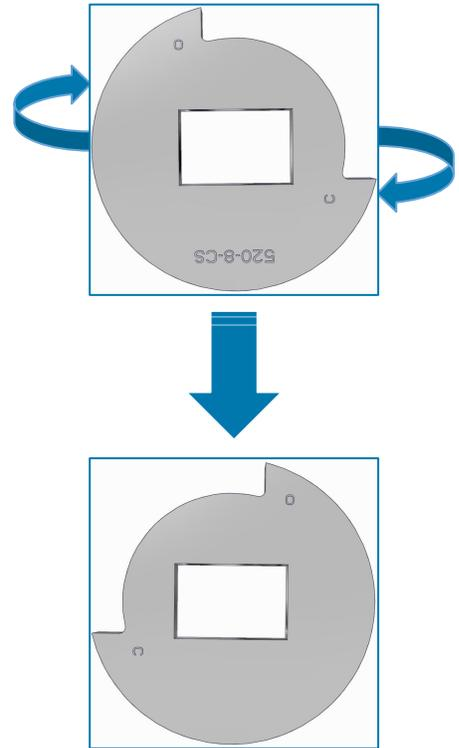

Figure 5 – Stop Plate Reversed
Step 3: Once the stop plate is removed, reinstall the stop plate as shown in Figure 6. **Be sure to flip the stop plate so that the part number etching is on the opposite side and not visible; see Figure 5.** In addition, the stop plate must be oriented so that the etched "O" is nearest to the position-limiting pin. (After installation, it will be necessary to view the opposite side of the stop plate to ensure that it has been installed correctly.)